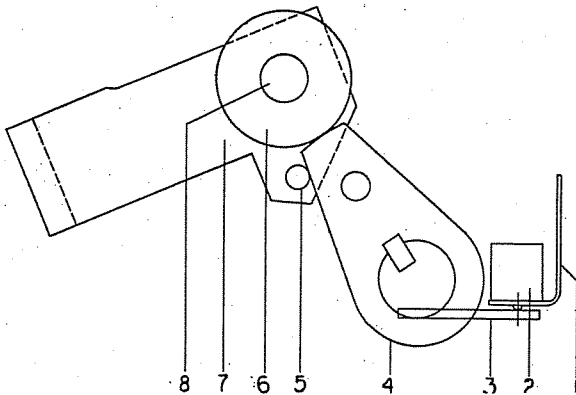

Figure 14 (0121C8152) Latch Checking Switch
Refer to Figure 14. Charge the closing springs sufficiently to reset the mechanism linkage. Rotate the trip latch (4) by pressing the manual trip lever to open the latch checking switch (2). Allow the trip latch to reset slowly and determine the point at which the contacts are made by using a circuit continuity tester (light indicator, bell set, etc). The contacts of the latch checking switch should just make when the gap between the trip latch (4) and the stop pin (5) located on the latch roller link (7) is  $1/16"$ . There should be a minimum of  $1/64"$  between the switch arm (3) and the switch support (1). To obtain adjustment of the latch checking switch, bend the latch checking switch arm (3).